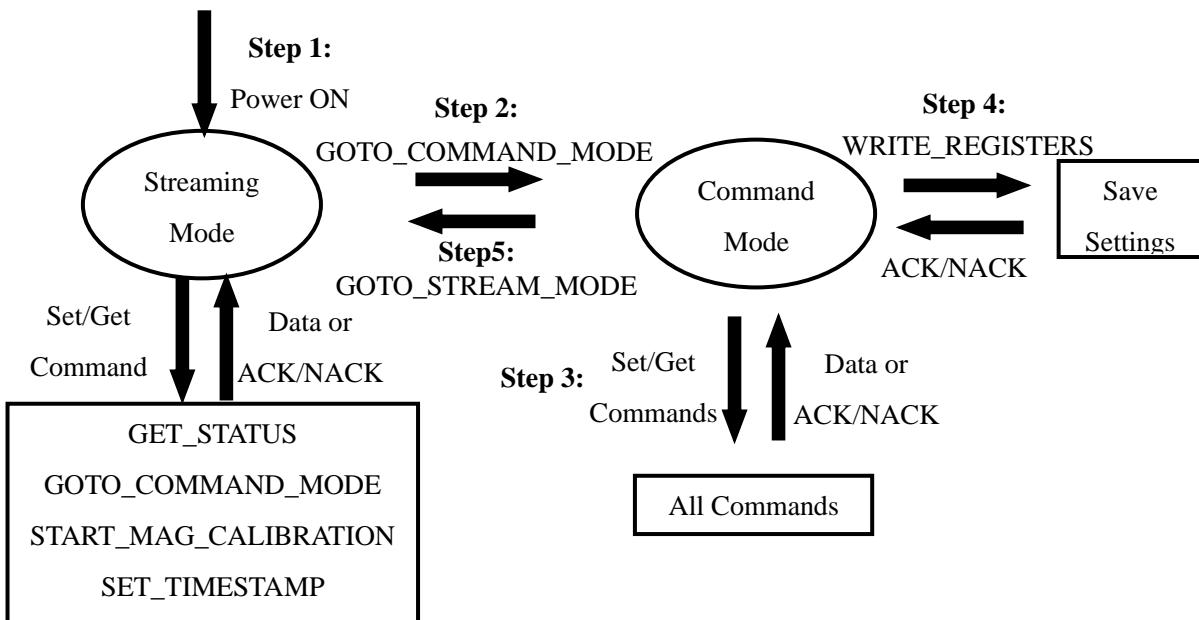

Figure 2.1. Flowchart of sensor parameters setting
Figure 2.1 shows the flowchart for changing the parameters of LPMS devices.
- Only 4 commands are executable in streaming mode, see **Figure 2.1**.
- Command **WRITE_REGISTERS** must be executed after changing sensor parameters, or all changes fail to set up after power down, see **Step 4 in Figure 2.1**.